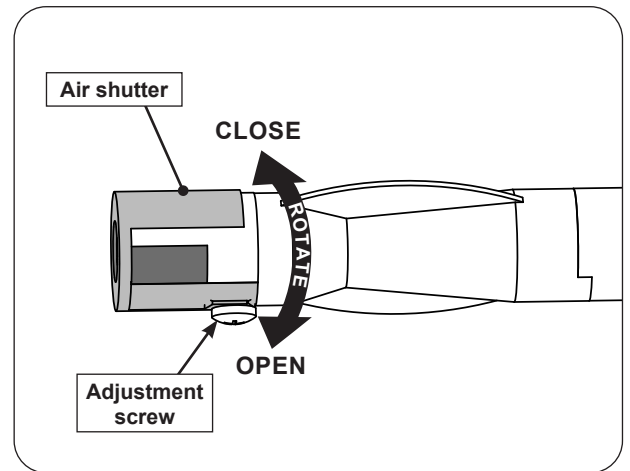

Fig. 41-1 Double side burner air shutter adjustment detail
2. Loosen the adjustment screw with a screwdriver, then carefully rotate the shutter to open or close it. See Fig. 41-1 for details.